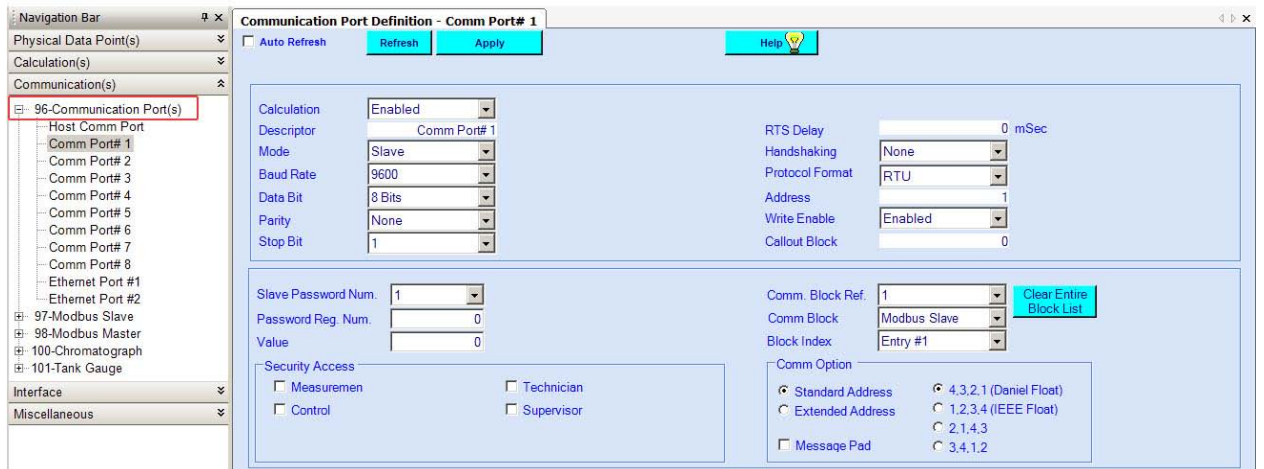

Figure 5–1. Selecting the communication port
2. The GC communicates to the flow computer as a master. So select **Master** from the Mode drop-down. The screen changes, as shown in Figure 5–2.